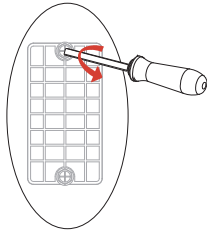

Figure 10a: Unscrew the cover
- Unscrew the cover. (Figure 10a)